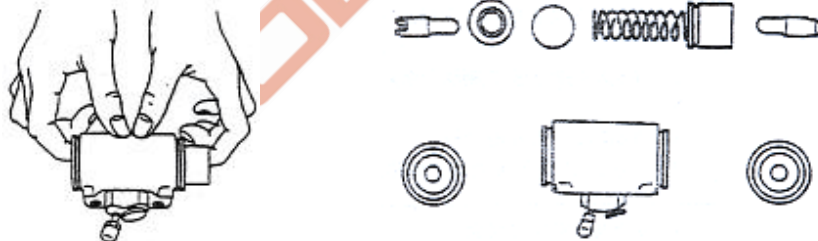

Figure 2-22
(7) Disassemble the brake cylinder: Remove the dust-proof ring. Press on one end of the piston to push out the other end and then press down the headed out end of piston with fingers. See figure 2-22